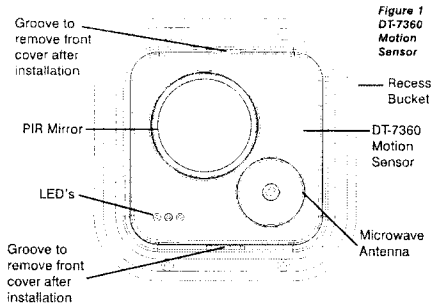

Figure 1
- After walk-testing, if further adjustments are needed, use a screwdriver to reopen the front cover. Insert screwdriver into the grooves in the recess bucket (see Figure 1), and gently press outward.